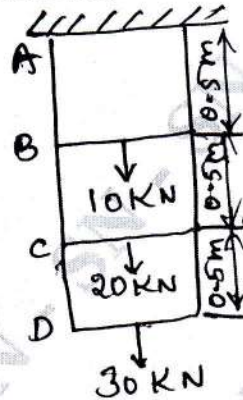

Fig Q1(b)
- b. A Steel bar of 1.5m length and uniform section of 500mm^2 is suspended vertically and loaded as shown in Fig Q1(b). Taking $E = 2 \times 10^5 \text{N/mm}^2$. Determine the total elongation of the bars neglecting the self weight of the bar.